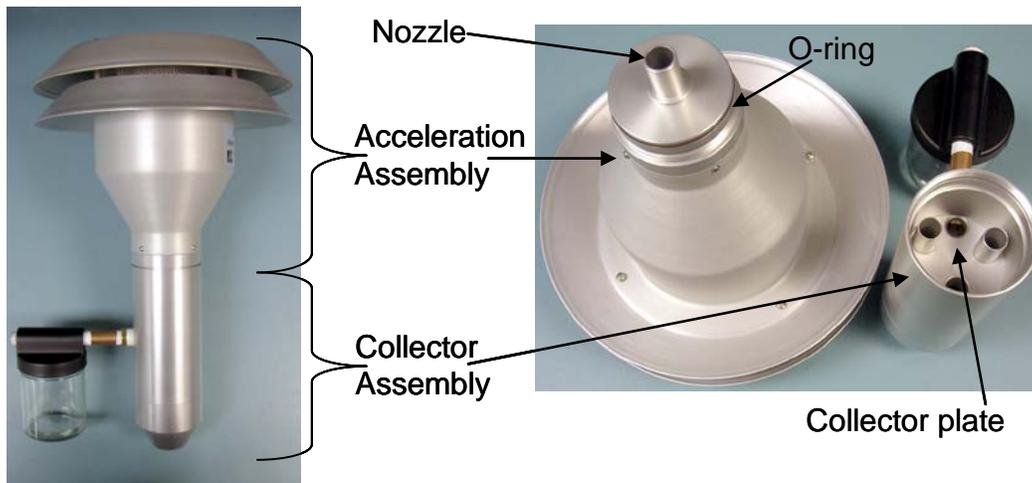

Figure 10-2. The PM₁₀ inlet has two primary components, the Acceleration Assembly and the Collector Assembly.
The PM₁₀ inlet has two primary components, the Acceleration Assembly and the Collector Assembly (**Figure 10-2**). Thermo Scientific recommends cleaning both of these assemblies monthly.
- Unscrew the Collector Assembly (Figure 10-2 bottom portion of inlet) from Acceleration Assembly (Figure 10-2 top portion of inlet) and set it aside.